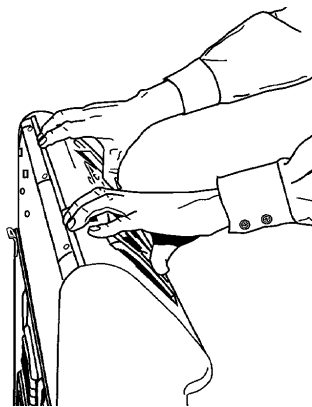

Figure 4-2
4. Grasp the top of the console and gently rock the top forward (*Figure 4-2*).